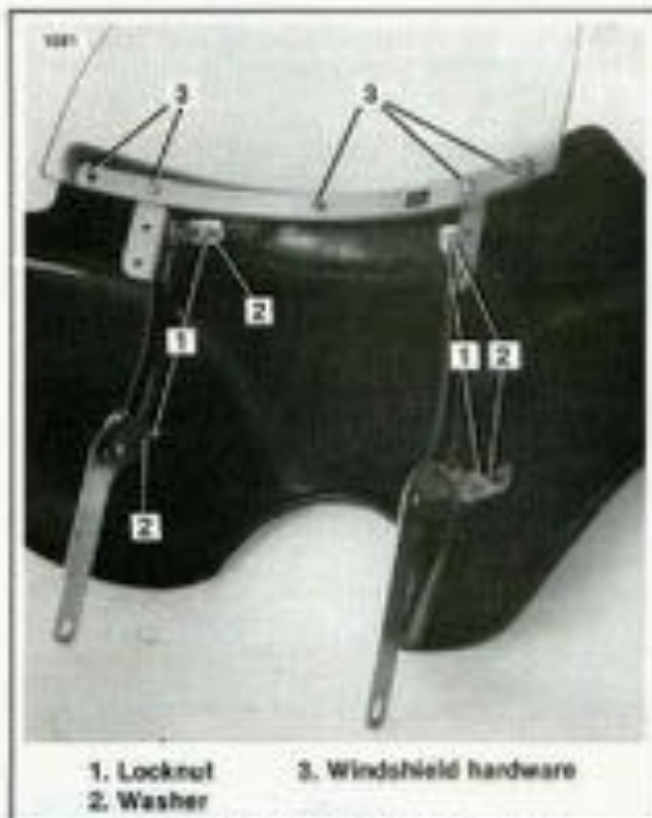

Figure 2-117. Windshield and Fairing
2. See Figure 2-117. Remove the four locknuts (1) and washers (2). Remove the fairing from the brackets.
3. See Figure 2-117. Remove the windshield mounting hardware (3) and windshield.
2. See Figure 2-117. Install the windshield using the original mounting hardware.
3. See Figure 2-117. Mount the fairing to the braces using the original washers (2) and nuts (1).